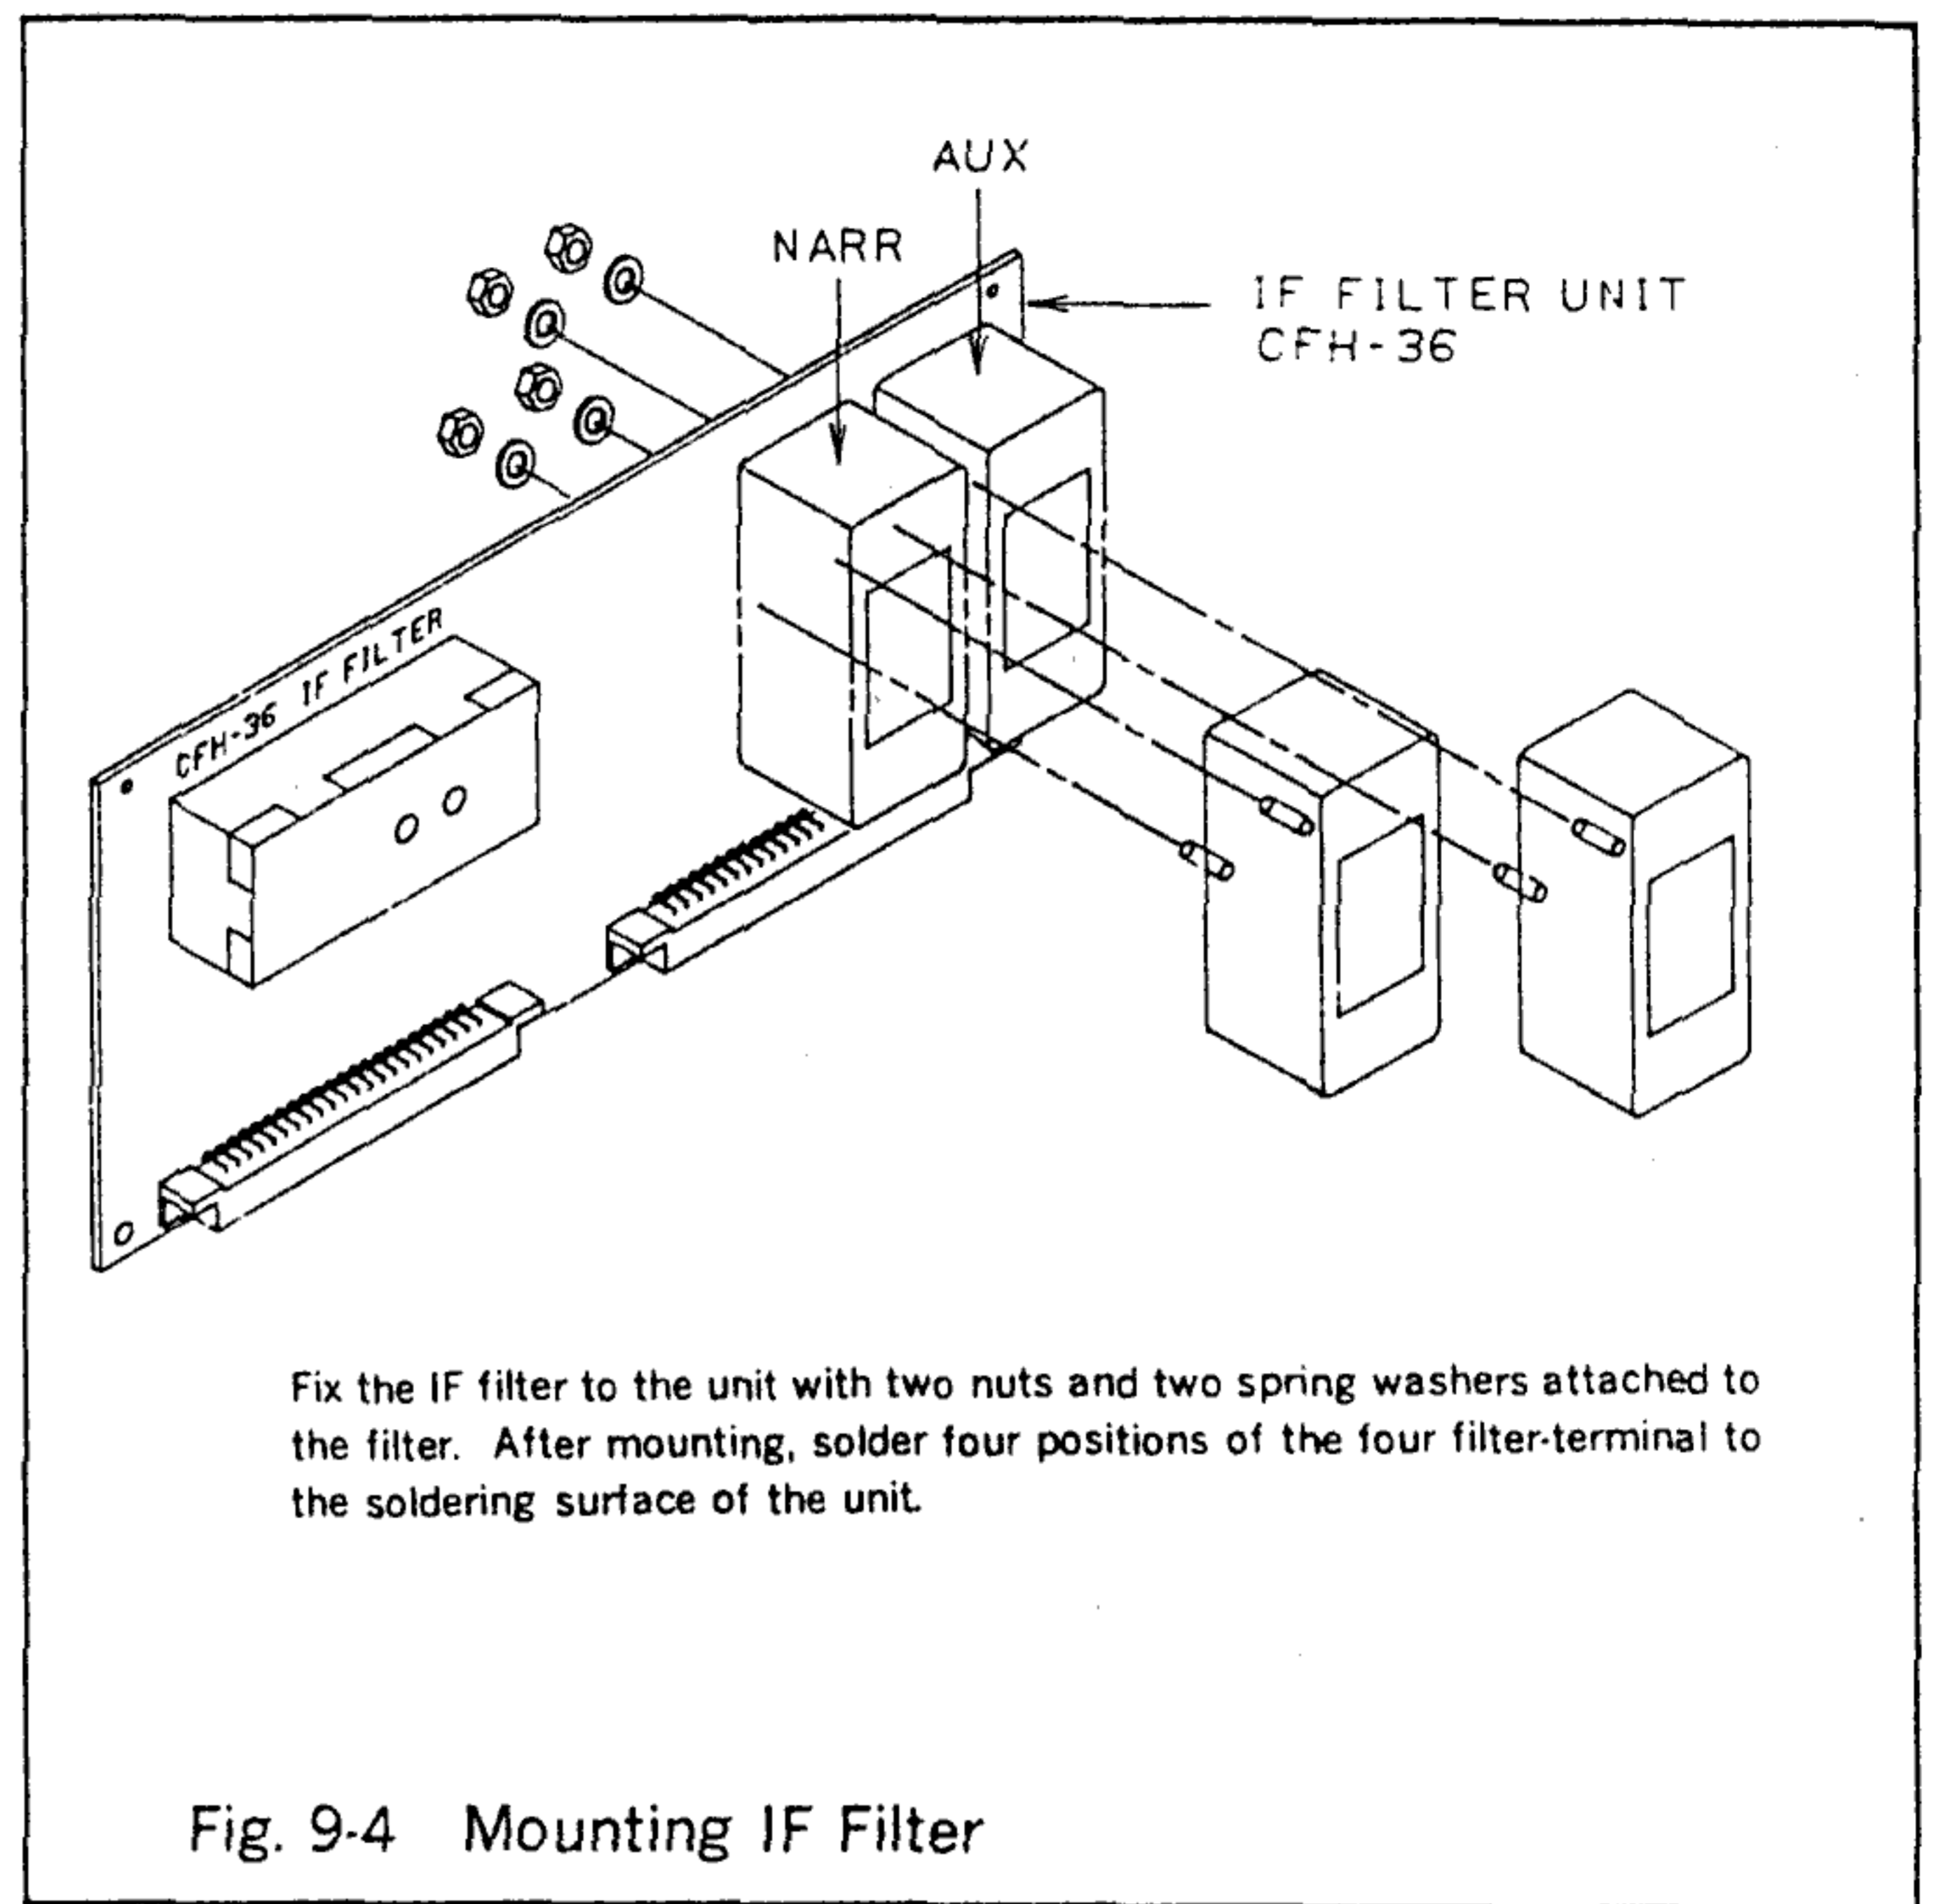

Fig. 9-4 Mounting IF Filter
- (1) Remove the upper cover.
- (2) Remove the IF filter unit CFH-36 from the Receiver.
- (3) Mount the IF filter as shown in Fig. 9-4.